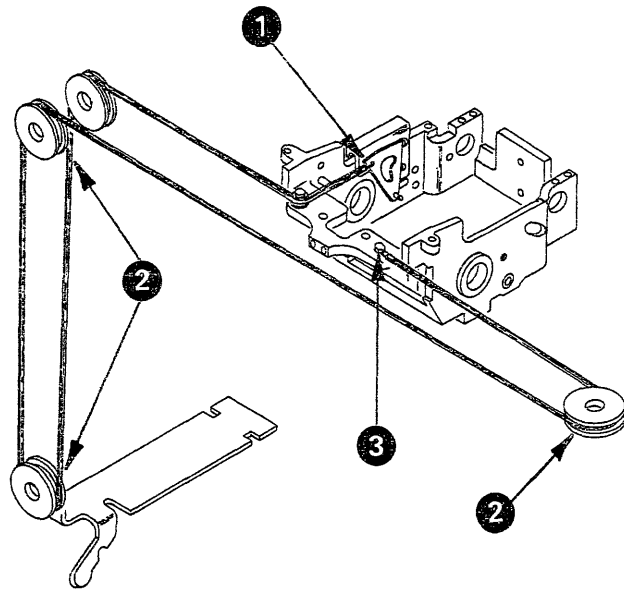

Figure 4-61. Red-Ribbon-Shift Tape Replacement
2. Thread the tape around the pulleys as shown in Figure 4-61.